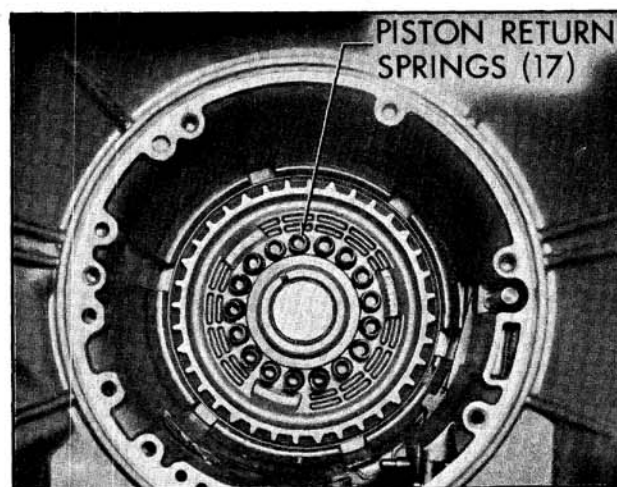

Fig. 6-488 Installing Return Springs
2. Install 17 clutch piston return springs. (Fig. 6-488)